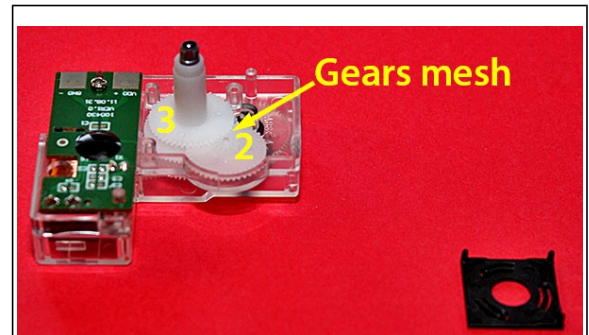

Fig. 50: Gear #3 in place.
- ☐ **Gear #3.** Place gear #3 over the shaft on gear #1. It should mesh with the small gear on the top of gear #2. See Fig. 50. Take special care to ensure that gears mesh where they are supposed to. It's easy to overlook this detail, and the movement won't work if gears don't mesh.